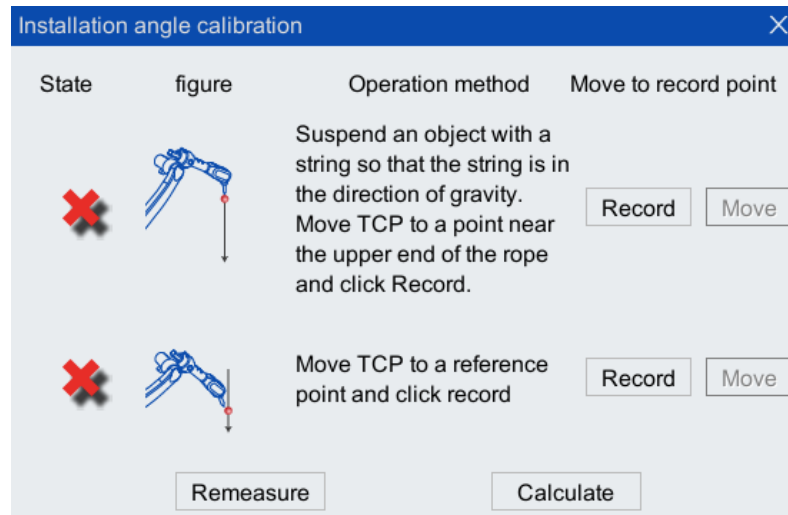

Figure 5-98 Installation angle calibration interface
Step1. Click "Run>Calibration>Installation Angle Calibration" on the main interface of the teach pendant to enter the [Installation Angle Calibration] interface, as shown in Figure 5-98.